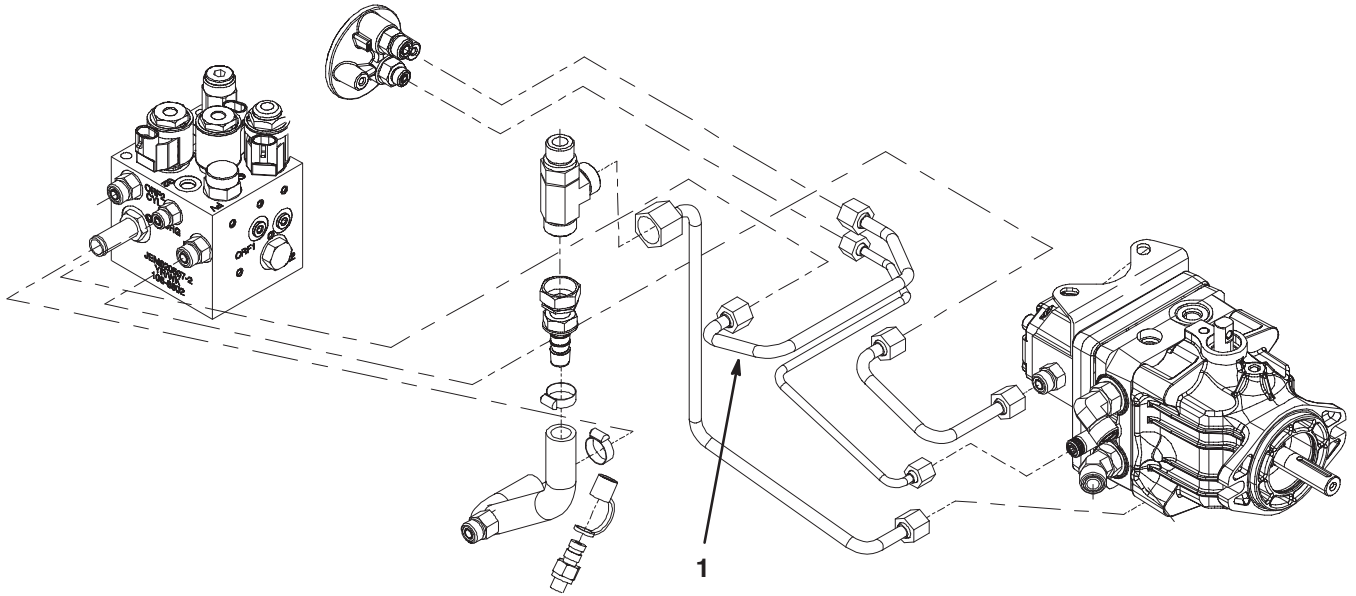

Figure 11
- Install new 3/8" tube (108-6811) between manifold "CHG" port and filter INLET (Fig. 11).